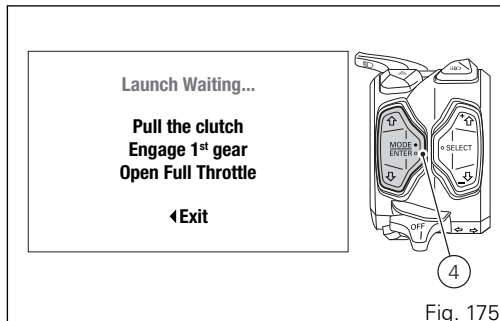

Fig. 175
Once the DPL level is set, the instrument panel shows the wait screen for 1 second (Fig. 175): during this time, if you press button (4) the wait phase is interrupted and the instrument panel displays the main screen and sets the DPL to OFF.